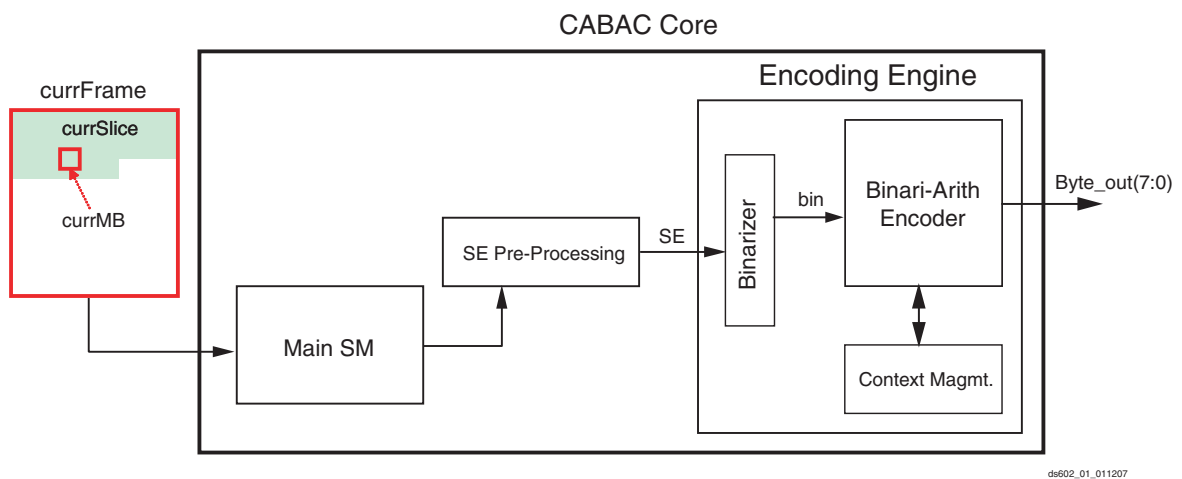

Figure 1: CABAC Functional Block Diagram
A high-level block diagram of the CABAC core is shown in **Figure 1**. The two main components are the control state machines (Main SM and Pre-Processing SM) and the encoding engine. As shown in **Figure 1**, the CABAC core is fully self-sustained with its complex state machines able to effectively generate and feed the appropriate Synthax Element (SE) into its internal Arithmetic Coding (AC) engine. For a given slice (pre-defined partition of a frame), the necessary input data is fed on a macroblock (MB) basis and consists mainly of the integer transform coefficients' absolute levels, the motion vector differences (MVD) and other related information such as MB type and MB prediction mode. The length and size of the MB data given as input to the core is adaptively determined on both the user's side and inside the core itself.